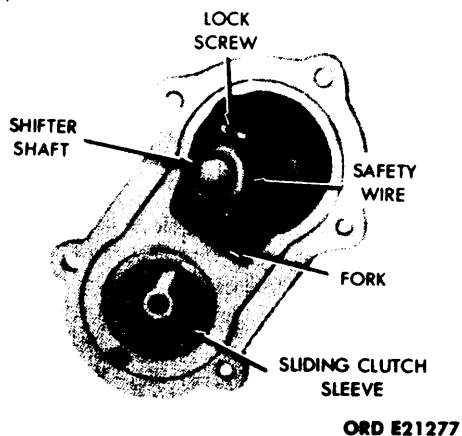

Figure 5-22. Removal of Shifter Shaft and Shifter Shaft Fork.
(1) Cut safety wire and remove from housing. (See fig. 5-22.)
(2) Remove the lock screw securing the shifter fork to the shifter shaft and remove the shaft and fork from the housing. (See fig. 5-22.)
- c. Shifter shaft and shifter fork. (See fig. 5-22.)